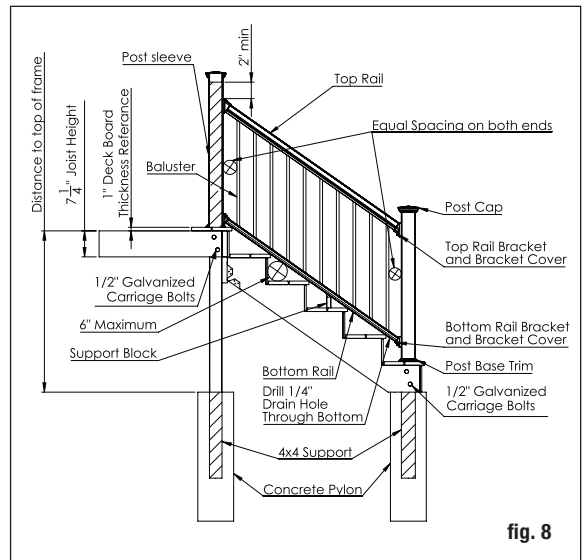
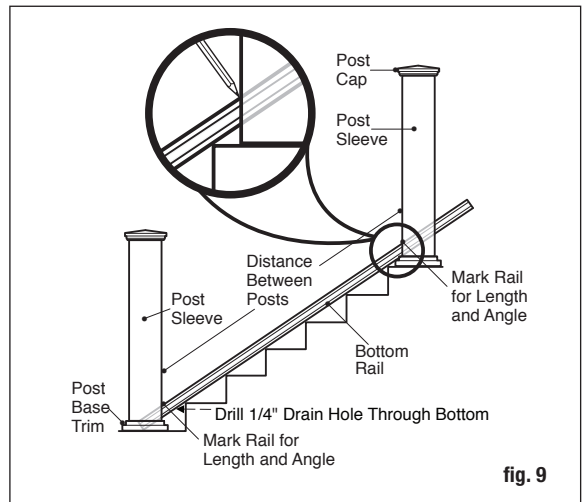

fig. 8
fig. 9
Step 2 Install wooden stair posts prior to installing stair treads. Cedar or pressure-treated pine 4x4 railing posts provides the structural strength for the stair railing. Position, plumb with a level, and clamp 5-ft. Wooden posts on the interior face of the stringer. Plumb again. The 4x4 stair railing post should be bolted to the inside of the stringer using two 1/2"x6" galvanized carriage bolts, washers and nuts. Corner posts use a third carriage bolt, washers and nuts inserted through the adjacent joist. Ground level posts should be set in concrete as shown (fig. 8). Deckorators structural post mount kits (item #215036, sold separately) can also be used to secure the post to the top of concrete.
Step 5 Measure the distance between installed post sleeves to determine the length of the top and bottom rails. Ensure baluster holes are oriented in the right direction. Then place the bottom rail on the stair treads next to the posts and adjust so the distance between the first baluster hole and post is greater than 2-3/4" minimum and equal on both ends (fig. 8). Mark the rail to show the desired length and cut angle. Cut the bottom rail. Transfer the cut lines from the bottom rail to the top rail, then cut both rails. (fig. 9). **Drill one 1/4" drain hole through the bottom of the rail to prevent trapping water. Position the hole toward the lower end of the rail, roughly 2.5" from rail end to avoid the lower bracket.**
Step 6 Place the proper rail bracket covers and stair brackets on the ends of the bottom rail. Pay particular attention to the brackets being used as they differ based on top/bottom rail and up/down angle. Determine the position of the support block and attach to the bottom rail. Prop the bottom rail between the posts on the stair treads (fig. 9). You may need to place equal shims between two stair tread noses to elevate the bottom rail. Check for requirements in your area. Typically, a 6" sphere may not be allowed to pass through the triangle formed by the bottom rail, tread and riser (fig. 8). Center the stair bracket on the post. Using the stair bracket as a guide, mark the screw positions on the post